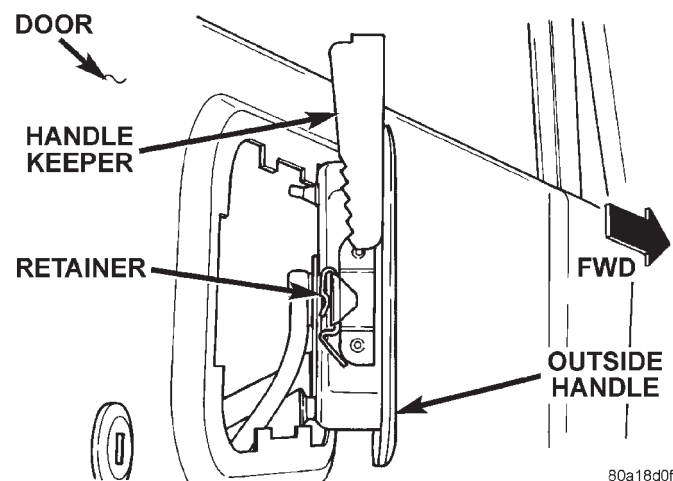

Fig. 23 Outside Door Handle Removal
- (6) Using a long flat blade, tap the handle keepers upward and remove from the door handle (Fig. 23).
- (7) Remove the latch release rod from the door handle.
- (8) Separate the handle and gasket from the door.